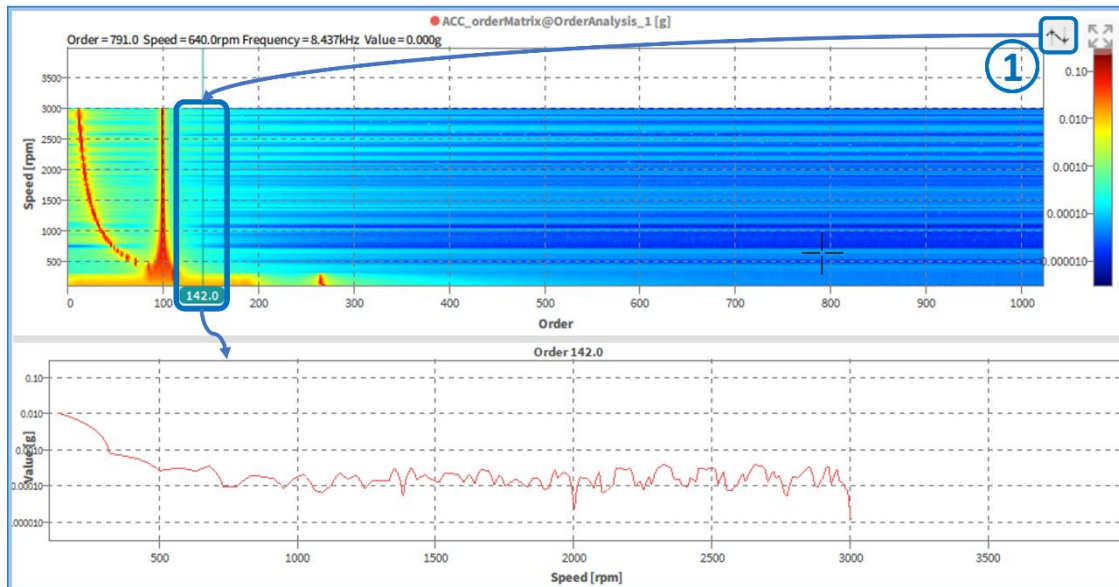

Figure 7-5: Extraction of order from intensity diagram.
It is possible to extract the order from an intensity diagram via the cursor position (see Figure 7-5). To enable the order extraction, press the icon on the upper right corner of the intensity diagram (①) and move the cursor in the diagram to the desired order. The size of the order extraction can be expanded by dragging the grey bar between the two diagrams. For better visualization, enable logarithmic scaling.